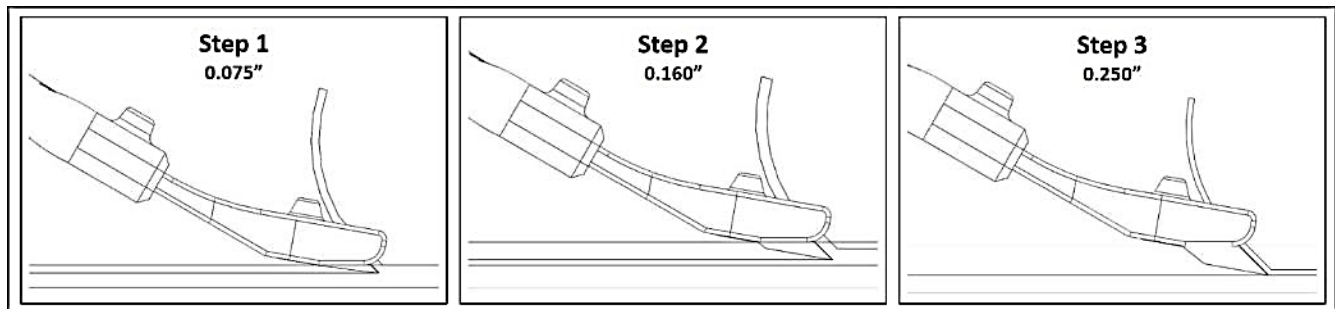

Figure 11. Incremental Gap Filler Removal Steps
- 3.2.5. Repeat the gap filler removal process using 0.160" and 0.250" depth TGBs, as required, until the desired amount of material has been removed. The design of the TGB requires removal of gap filler in incremental steps with multiple passes (using each depth blade, shallowest to the deepest required). See **Figure 11**.